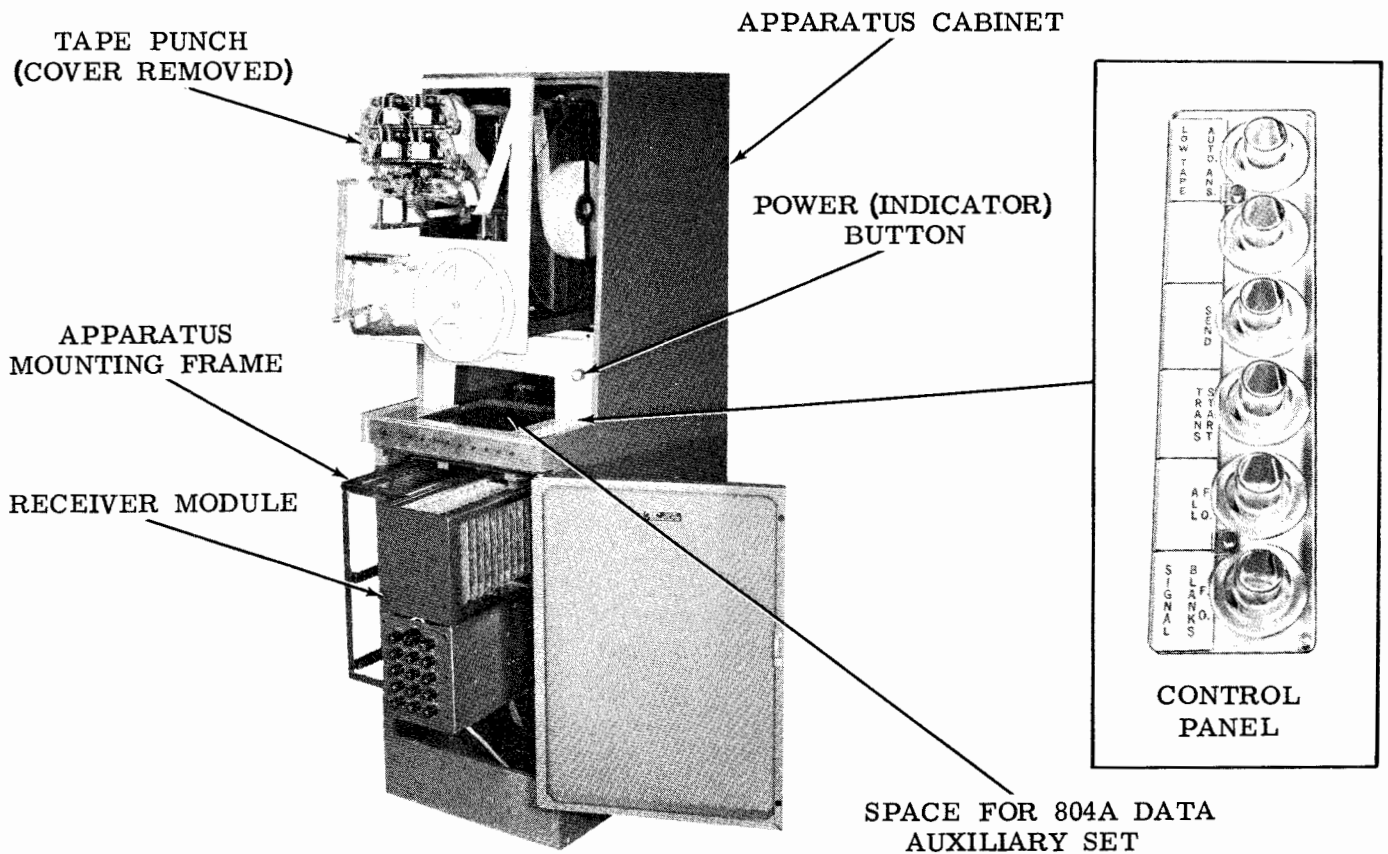
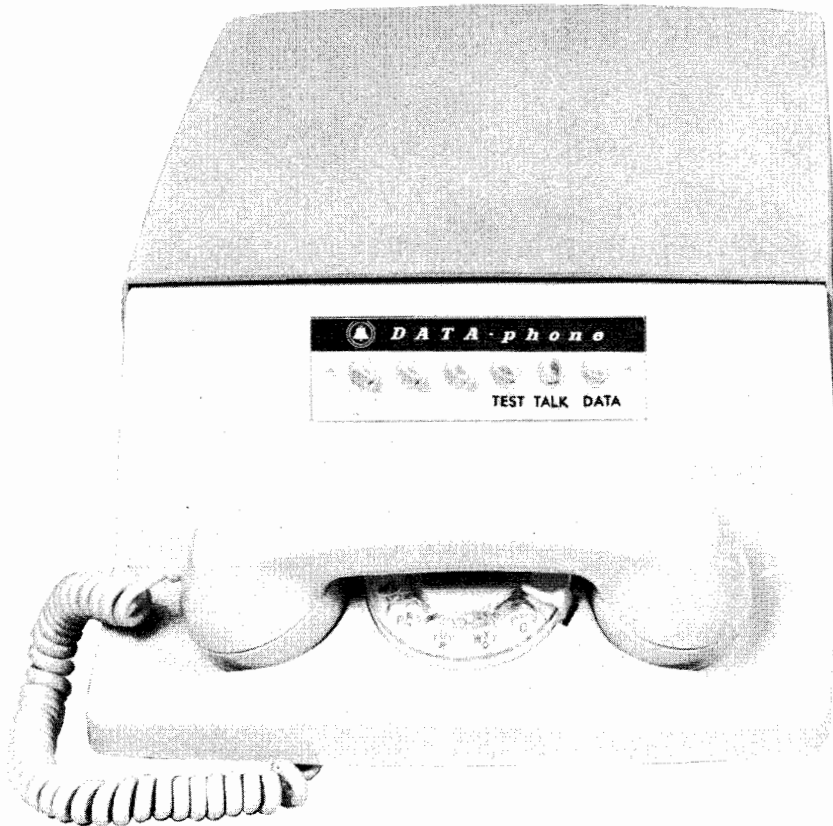

Figure 2 - Tape Receiver 5B, Components
Figure 3 - Data Auxiliary Set 804A
2.04 Tape Receiver 5B (Figure 2) is a floor mounted unit having essentially the same cabinet design as the 5C Tape Sender. The tape punch equipment is mounted on a sliding drawer at the top of the cabinet. A receiver module is slide mounted in the lower half of the cabinet. The receiver module includes the receiver, punch driver and power supply circuits. Space is provided to the left of the receiver module to accommodate optional circuitry. A hinged door covers the lower half of the cabinet. Space is provided at the bottom of the cabinet for the data set 402D. A shelf near the center of the cabinet accommodates the data auxiliary set 804A (Figure 3).